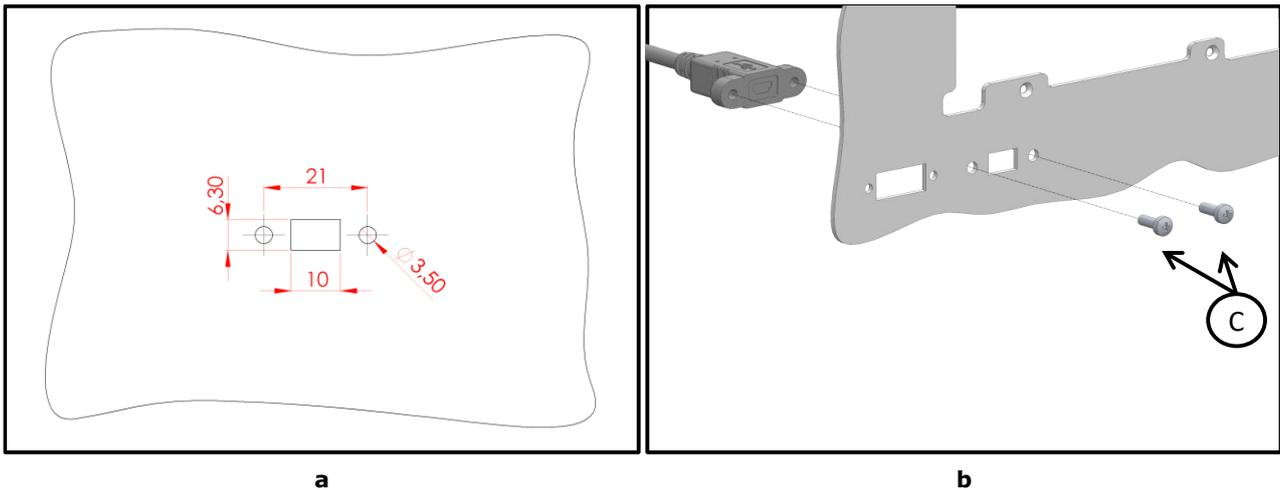

Figure 88. Installation of the Ultra-Thin Mini-B Extension Cable panel. (a) Panel opening size (b) Fixation of the Ultra-Thin Mini-B Extension Cable.
- 1 Cut an opening in the panel with the size indicated in Figure 88(a).
- 2 Fix the Ultra-Thin Mini-B Extension Cable connector to the panel with the screws provided, pointer C in Figure 88(b).